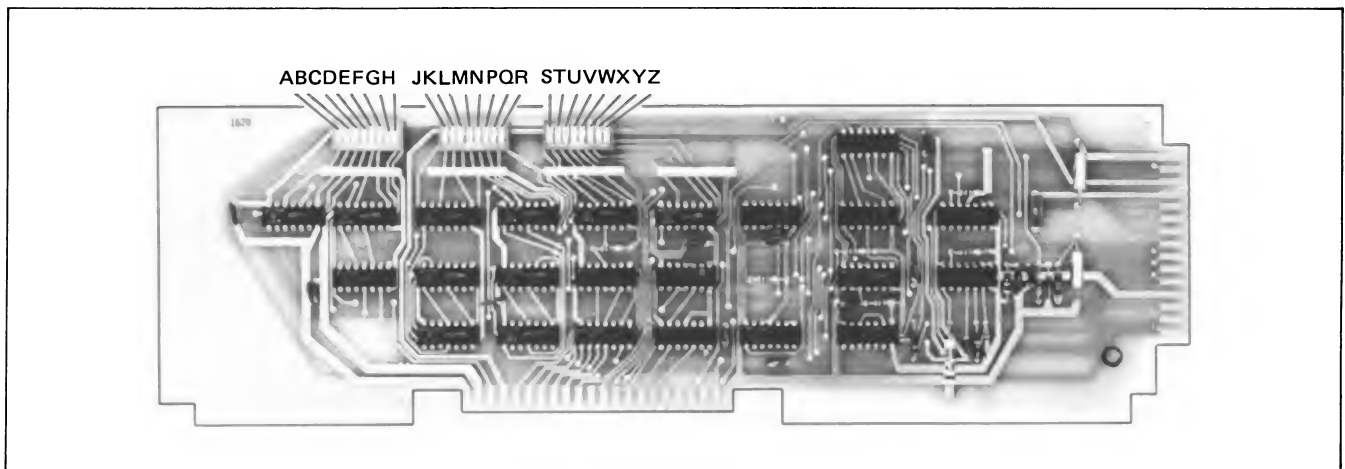

Figure 7-17. Keyboard Interface PCA Strapping Options
3. () Using figure 7-17, 7-18, 7-19, or 7-20 (as applicable) and table 7-4, 7-5, 7-6, 7-7 or 7-8 (as applicable), select the desired operating functions, and set the switches to the appropriate positions. (More information on configuration is given in Section V.)